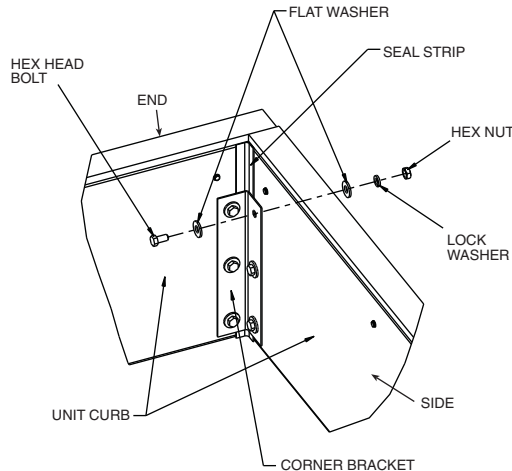

Fig. 21 — Corner Bracket
2. Arrange sides and ends together at right angles and bolt together using the corner bracket as shown in Fig. 21.